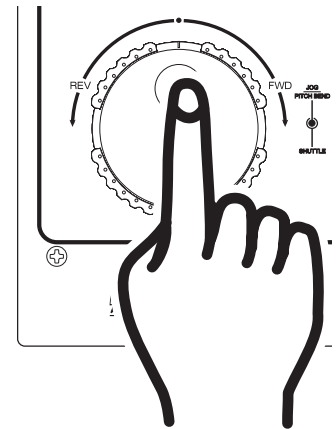

Figure 9
This feature allows you to scroll through a track to set a cue, starting sample, or loop point. To use the scroll function you must first be in Pause Mode or Cue Mode. Once you are in Pause or Cue mode, use your finger tip to turn the JOG WHEEL (19) to scroll through the track (figure 9). Turning the wheel in a clockwise direction will advance the frame search and turning the wheel in a counter-clockwise direction rewinds the frame search. When you use the JOG WHEEL (19) the monitor (headphone level) function allows you to hear what you are scrolling through. Once you reach your desired starting point you can set a cue (starting) point by pressing the PLAY/PAUSE BUTTON (29) as in figure 9. Pressing the CUE BUTTON (27) will return the disc to the cue point just set.